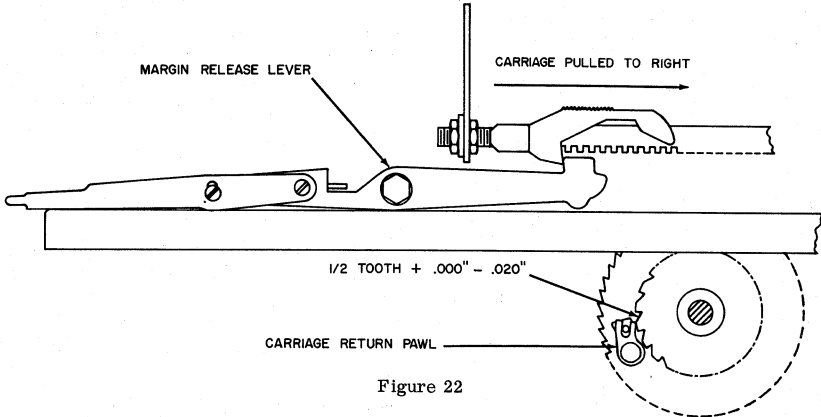

Figure 22
4. At this time, when the carriage is manually pulled to the right as far as the margin stop will allow, the escapement pinion ratchet should have moved away from the carriage return pawl so the pawl is just coming on to the periphery of the escapement pinion ratchet (plus .000" minus .020") (Figure 22). To obtain this, a very slight shifting of the margin rack may be performed, but not so much that there is a large inequality in the extension of the margin rack beyond the end frames.